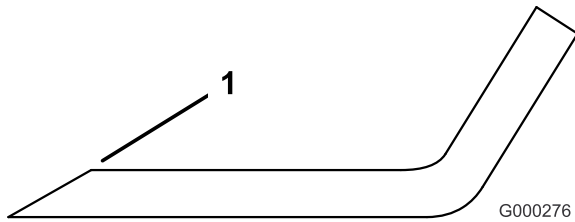

Figure 93
3. Examine the cutting edges of all of the blades. Sharpen the cutting edges if they are dull or nicked. Sharpen only the top of the cutting edge and maintain the original cutting angle to make sure of sharpness (Figure 93). The blade will remain balanced if the same amount of metal is removed from both cutting edges.